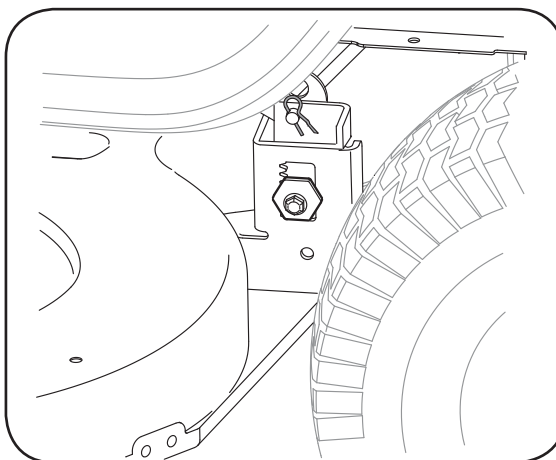

Figure 6-5
4. Remove the belt (C) from around the tractor's engine pulley.
5. Looking at the cutting deck from the left side of the tractor, locate the hair pin clip that secures the deck support rod on the rear left side of the deck. See Figure 6-5. Remove the hair pin clip that secures the deck support rod, and carefully remove the deck support from the deck lift arm.